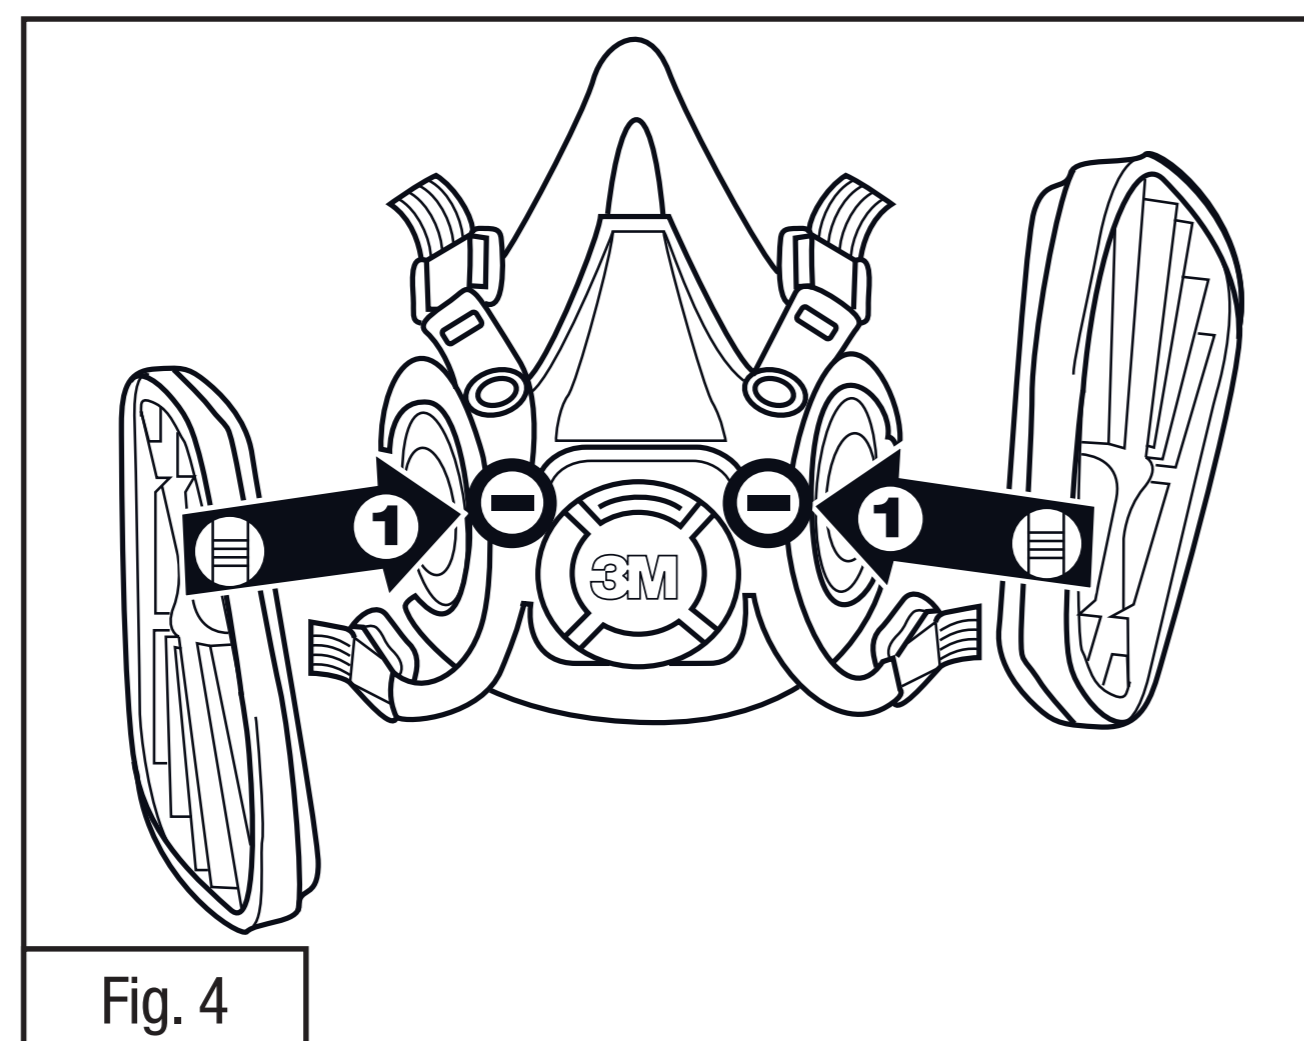

Fig. 4
1. Align notch on edge of 603 adapter with facepiece mark, as shown, and push together (Fig. 4).